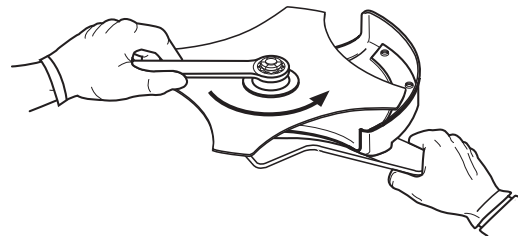

Figure 5
7. Tighten the nut counterclockwise with a wrench (Fig. 5):